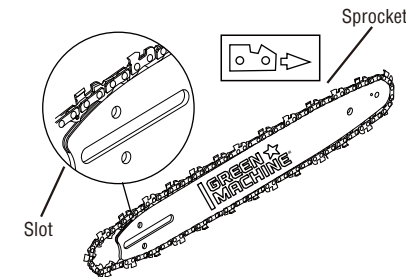

Fig.7A
1. Place a new chain in the slot of the guide bar, making sure the saw teeth are facing the correct direction by matching the arrow on the guide bar (Fig. 7A).